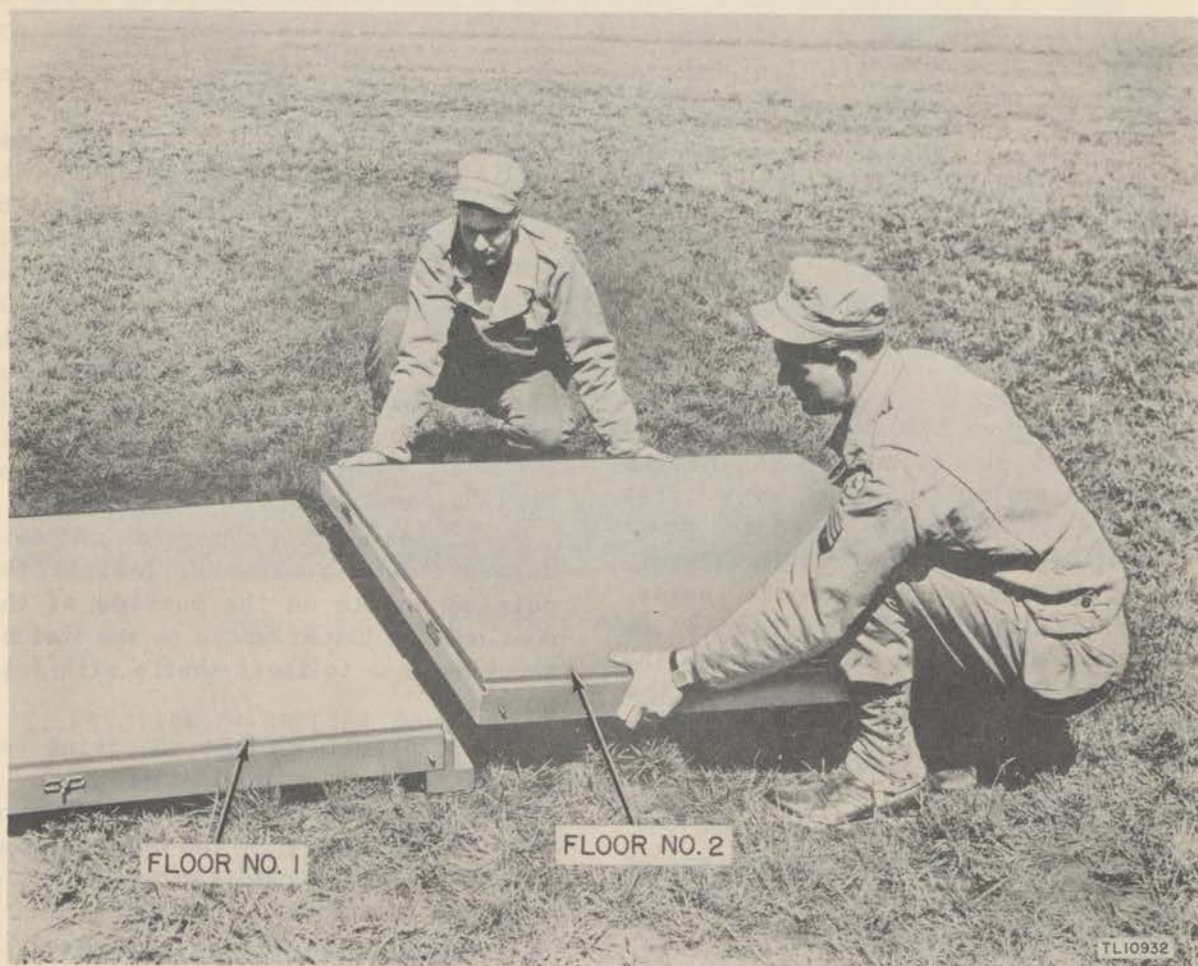

Figure 24. Floor section assembly.
c. Remove Mounting Collar MT-334/CRD-3 from Chest CY-252/CRD-3 and fasten to the silver-plated portion of the lower mast section (fig. 24).
(1) Place FLOOR No. 1 on the ground with its finished end next to the shelter site.
(2) Place FLOOR No. 2 against FLOOR No. 1 as shown in figure 24. Only one mud sill is provided on FLOOR No. 2. The other end is supported by the projecting sill on one end of FLOOR No. 1.